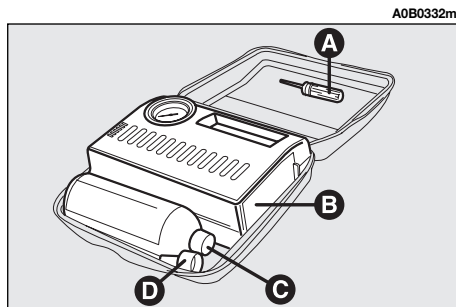

fig. 6
The quick repair kit includes (fig. 6):
– take the compressor set **(B-fig. 6)** out of the Fix&Go kit (it is not necessary to use the small cylinder **(C)** containing the sealing fluid);